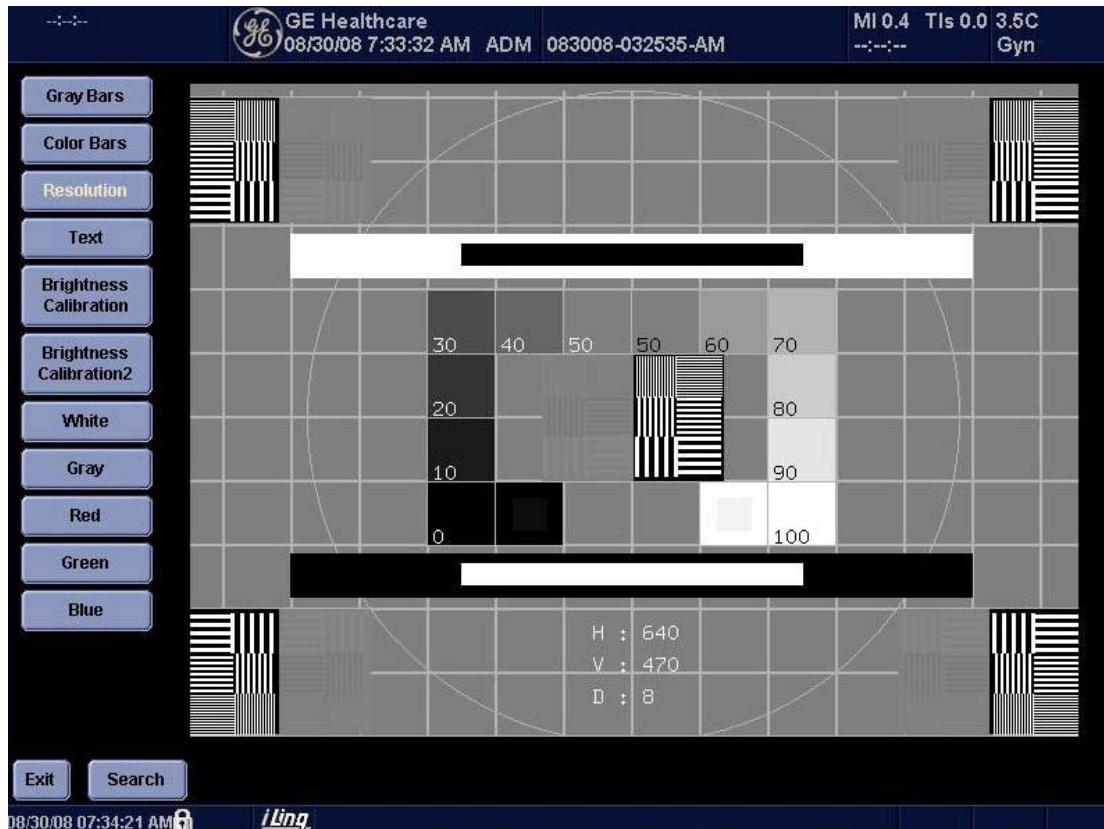

Figure 4-40 Monitor Test pattern screen
- 2.) Select "Utility Key" on the Key board and then choose " Test Pattern" and "Resolution" marked in Figure 4-40.